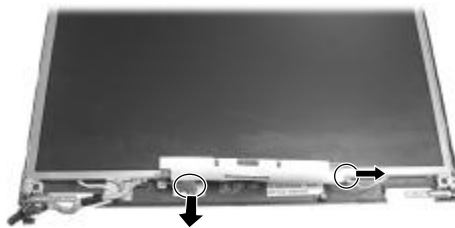

Figure 2-28 Remove the inverter board
5. To remove the inverter board on the lower part of the LCD housing , disconnect two cables. (Figure 2-28)